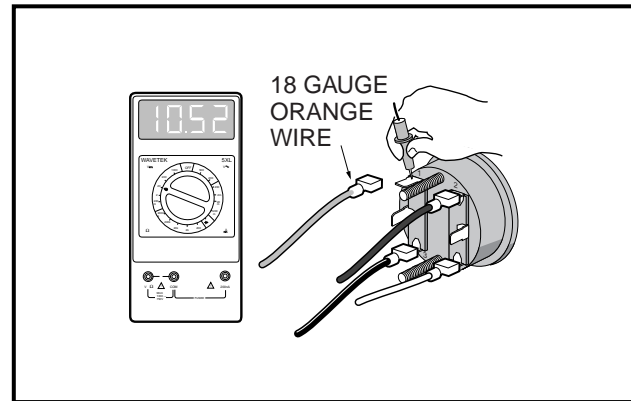

Figure 11-46 Fuel Gauge Voltage Test
9. The orange wire should remain disconnected for this step. With the black probe still on the (3) terminal of the fuel/hour gauge, place the red (+) probe of the multimeter on the (1) terminal of the fuel/hour gauge. The voltage reading should be the same as the full battery voltage reading obtained in step 5. If the reading is incorrect, replace fuel/hour gauge (**Figure 11-46, Page 11-41**).